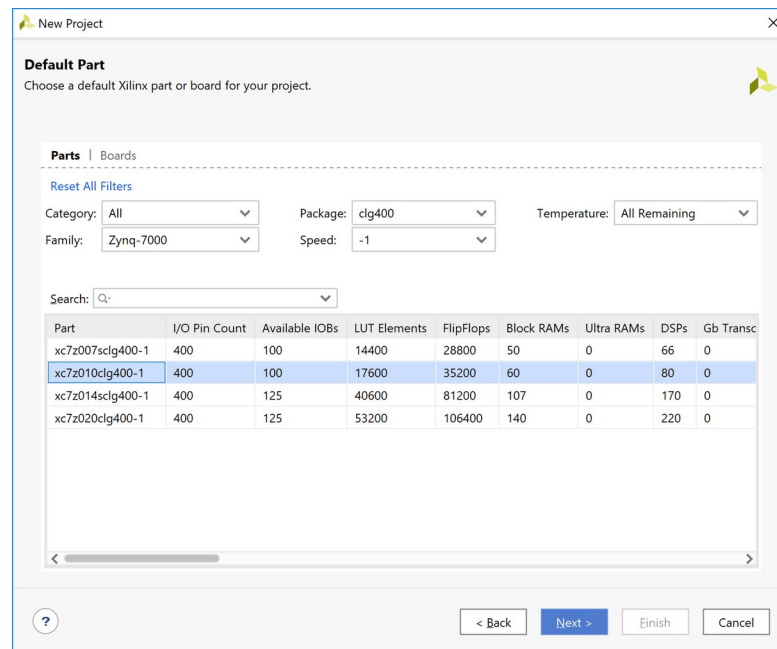

Figure 2: Device Properties
- (f) Next, the 'Default Part' window appears (Figure 2). We can select our hardware from the 'Parts' tab or from the 'Boards' tab. The 'Parts' tab lists Xilinx supported Parts(FPGAs) and the 'Boards' tab lists the supported boards. The ZYBO (Zynq Board) is an entry-level digital circuit development platform built around the Xilinx Zynq-7000 family, the Z-7010. The Z-7010 is based on the Xilinx All Programmable System-on-Chip (AP SoC) architecture, which integrates a dual-core ARM Cortex-A9 processor with a Xilinx 7-series Field Programmable Gate Array (FPGA) logic. In this lab and the next we will select the hardware from the 'Parts' tab and in the later labs we will select the hardware using the 'Boards' tab. Select the hardware using the following parameters.